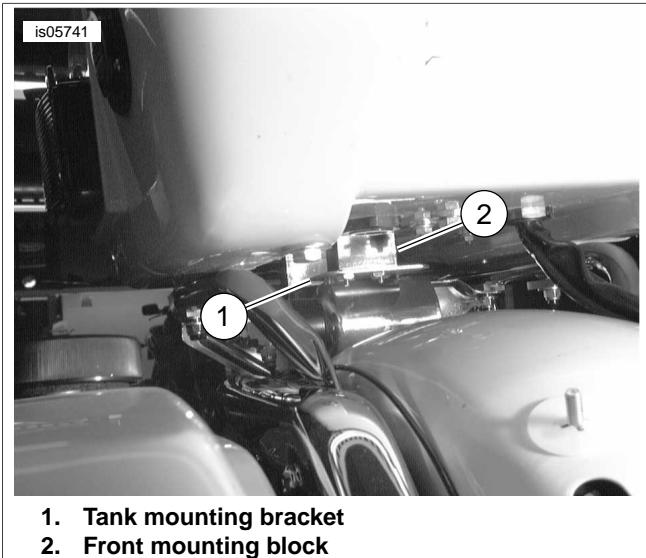

Figure 7. Install Tour-Pak Front Mounting Bracket - '08 & earlier
7. See Figure 7. Install flat washers to Phillips screws and position screws above two holes near front center of Tour-Pak above front mounting block position.